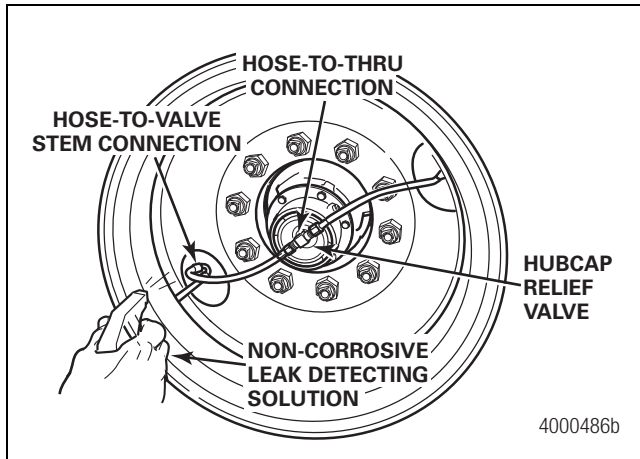

Figure 4.4
6. Use a non-corrosive leak detecting solution to check the hose-to-valve stem connections, hose-to-thru-tee connections and hubcap relief valve for leaks. Figure 4.4. Repair or replace parts as required. Refer to Section 3.